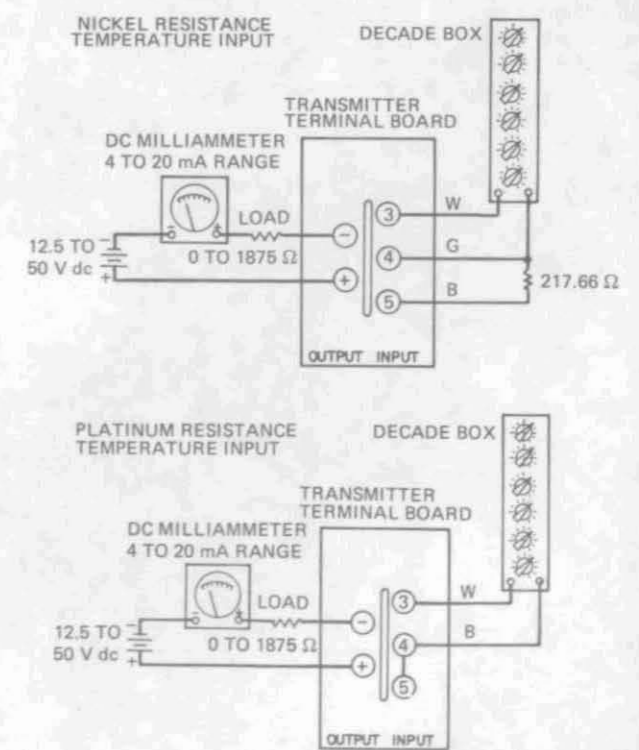

Figure 5
1. Make connections as shown in Figure 5. Determine resistance range of transmitter from temperature resistance curve supplied with transmitter.